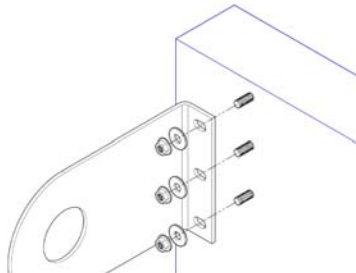

Figure 12
27. Refer to the installation instructions for the rear floor anchor found in the package of the floor insert (item 33) and install the insert into the floor. This insert is to be installed at the rear anchor location marked on the floor in step 24.
29. Insert the brass floor inserts (item 19) into the holes drilled in step 28.
31. Install the rear anchor tie down bolt (item 17) on the rear of the unit and secure the anchor bolt to the floor anchor insert.
32. Attach the backboard padding to the backboard. Attach the horizontal boom pad (item 8) to the boom just behind the backboard.
34. Install the Upright pad (item 6) to the front upright using the Velcro straps.
35. Attach the front base pad (item 3) to the hinge brackets located near the base of the front upright. Attach the base pad to the hinge brackets using 1/4-20 x 1.5" studs (item 34), 1/4" flat washers (item 35), and 1/4-20 nuts (item 36). Refer to figure 12.